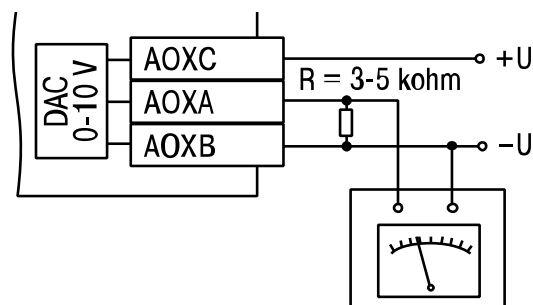

Fig. 6.1 Functional test
- Connect a voltmeter and a resistor box as shown in Fig. 6.1